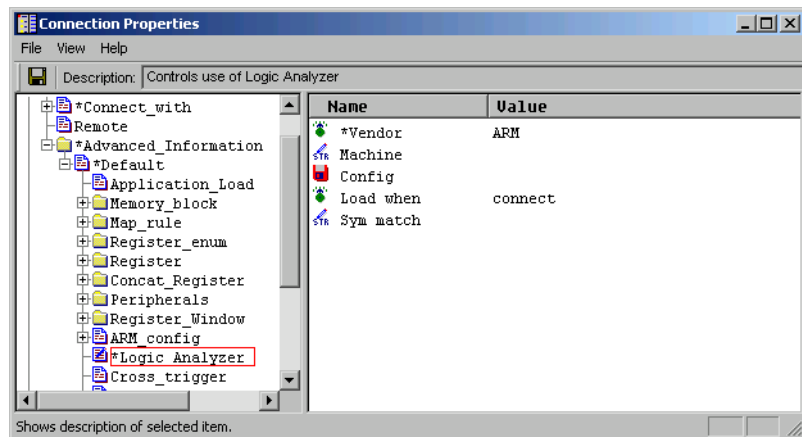

Figure B-12 Connection Properties window show Logic_Analyzer settings
- e. Click on the Logic_Analyzer item. The Logic_Analyzer settings are displayed in the right-hand pane, as shown in Figure B-12.